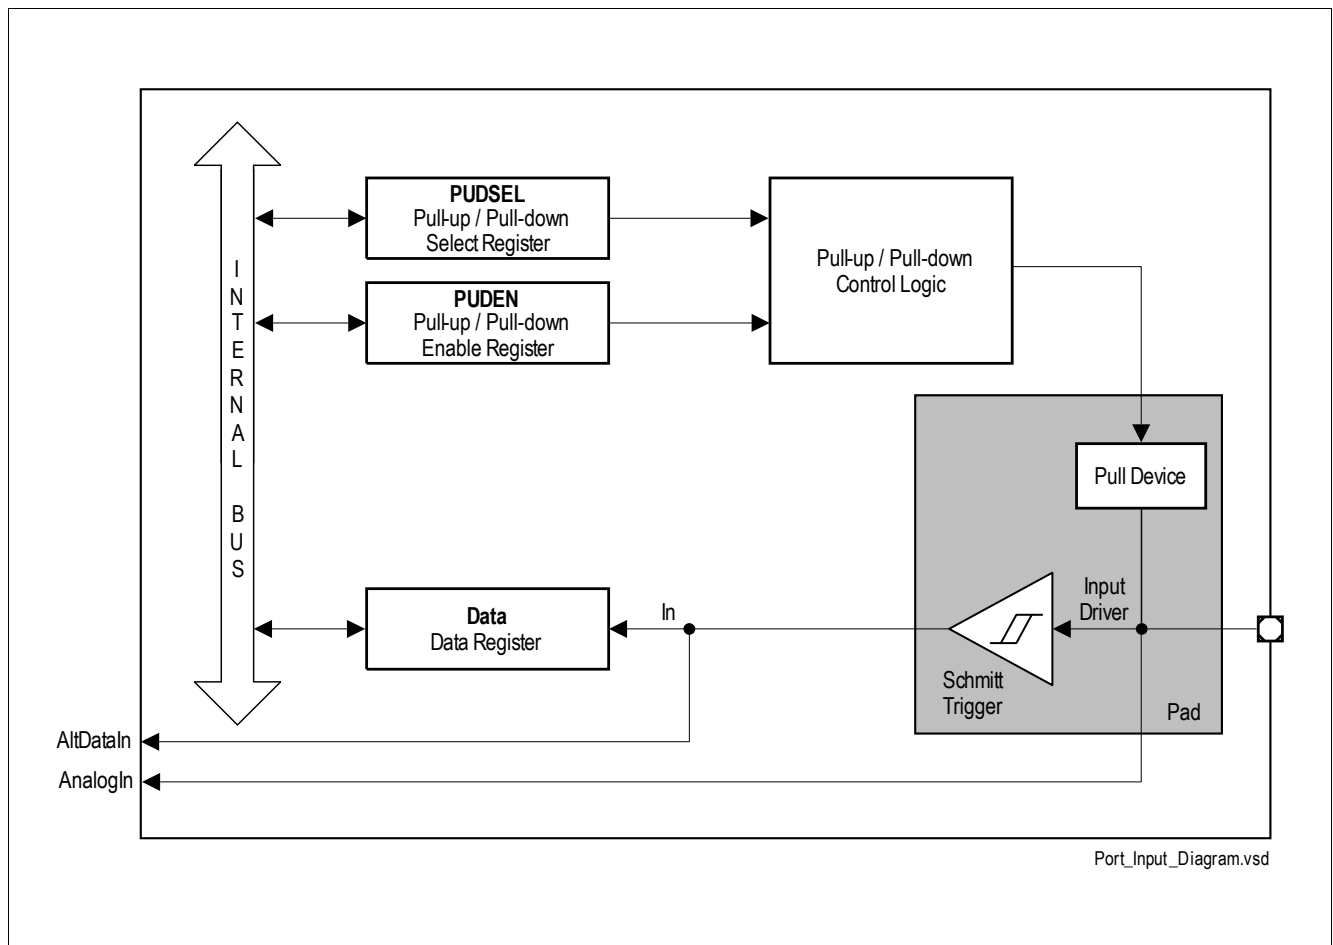

**Figure 20 General Structure of Bidirectional Port**
**Figure 20** shows the block diagram of an TLE9855QX bidirectional port pin. Each port pin is equipped with a number of control and data bits, thus enabling very flexible usage of the pin.